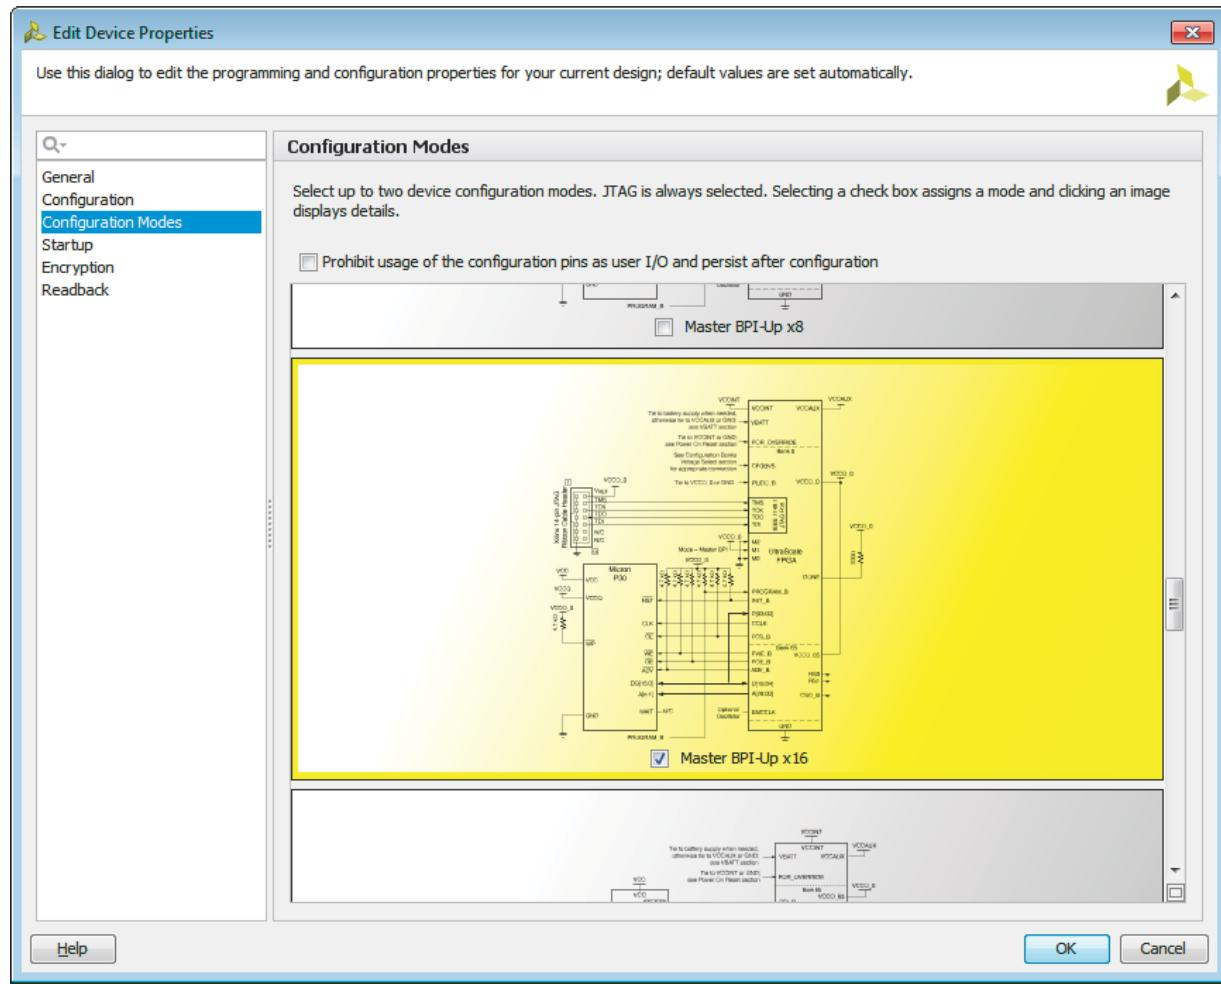

Figure 10: Master BPI-Up x16 Option
- Under the Configuration Modes, ensure that the Master BPI-Up x16 option is selected, as shown in Figure 10.